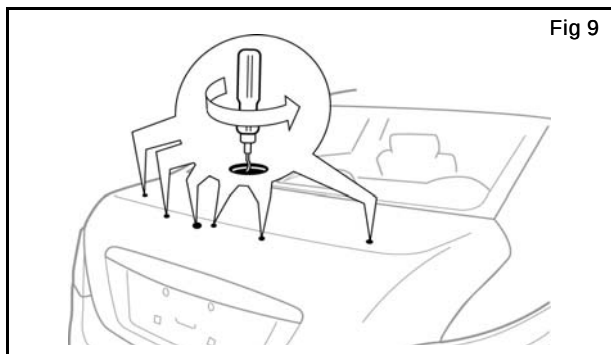

Fig 9
- 19) De-burr all holes and remove metal chips from the top and bottom of the trunk lid. (Fig 9)